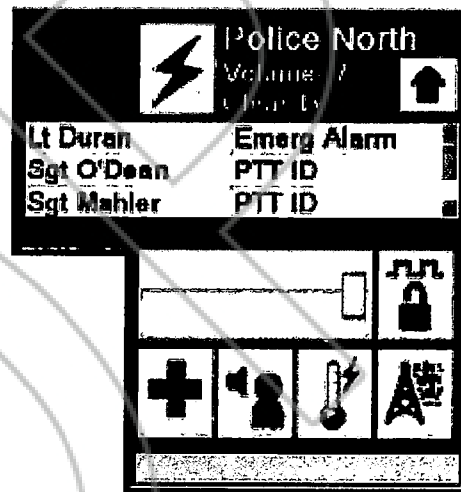

Figure 1-6: Larger Compressed Radio Resource
- **Larger Compressed Resource** – Allows the dispatcher to always show some of the indicators and controls, and hide some of the others (Figure 1-6).